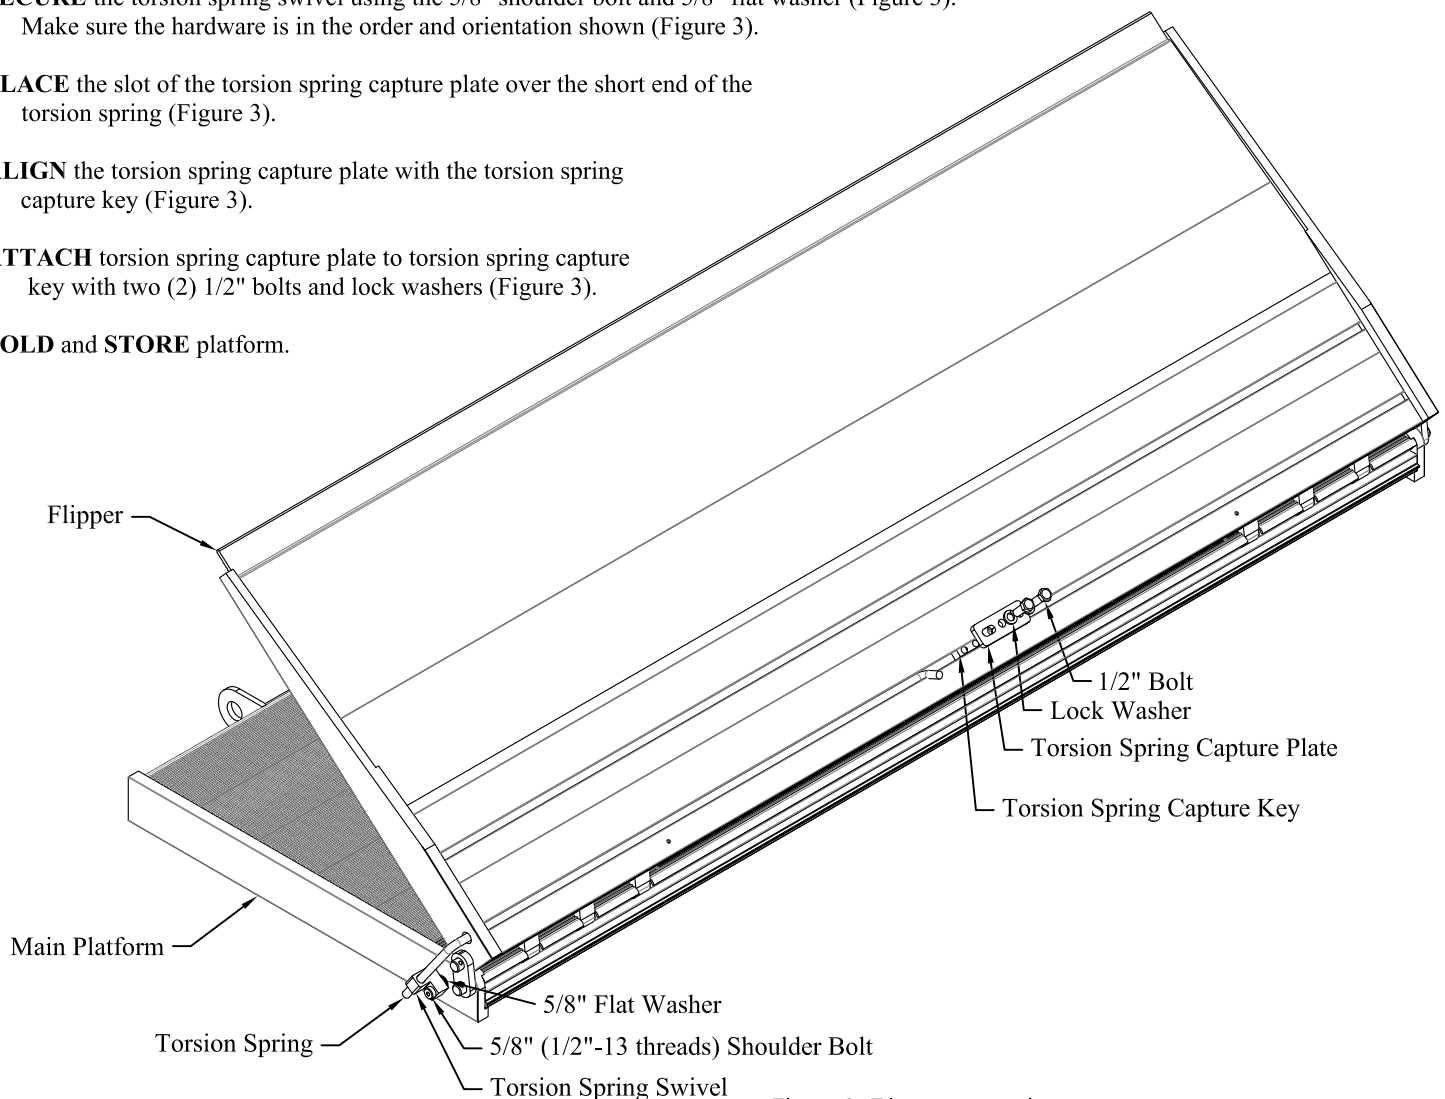

Figure 3: Flipper Installation.
1. **ROTATE** the flipper to roughly the position shown and support flipper (Figure 3).
2. **INSERT** short spring end into driver side flipper with the short spring end pointing away from the platform (Figure 3).
3. **INSTALL** the torsion spring swivel on the torsion spring and **SLIDE** spring into the platform (Figure 3).
5. **SECURE** the torsion spring swivel using the 5/8" shoulder bolt and 5/8" flat washer (Figure 3).
Make sure the hardware is in the order and orientation shown (Figure 3).
6. **PLACE** the slot of the torsion spring capture plate over the short end of the torsion spring (Figure 3).
7. **ALIGN** the torsion spring capture plate with the torsion spring capture key (Figure 3).
8. **ATTACH** torsion spring capture plate to torsion spring capture key with two (2) 1/2" bolts and lock washers (Figure 3).